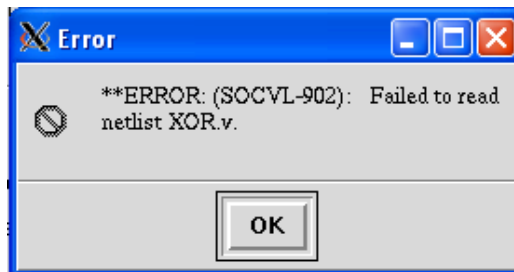

Fig 15: Error message
- If you receive an error as shown in Fig 15, just click **OK** to close the error window. Click **OK** again in **Design Import** dialog box.